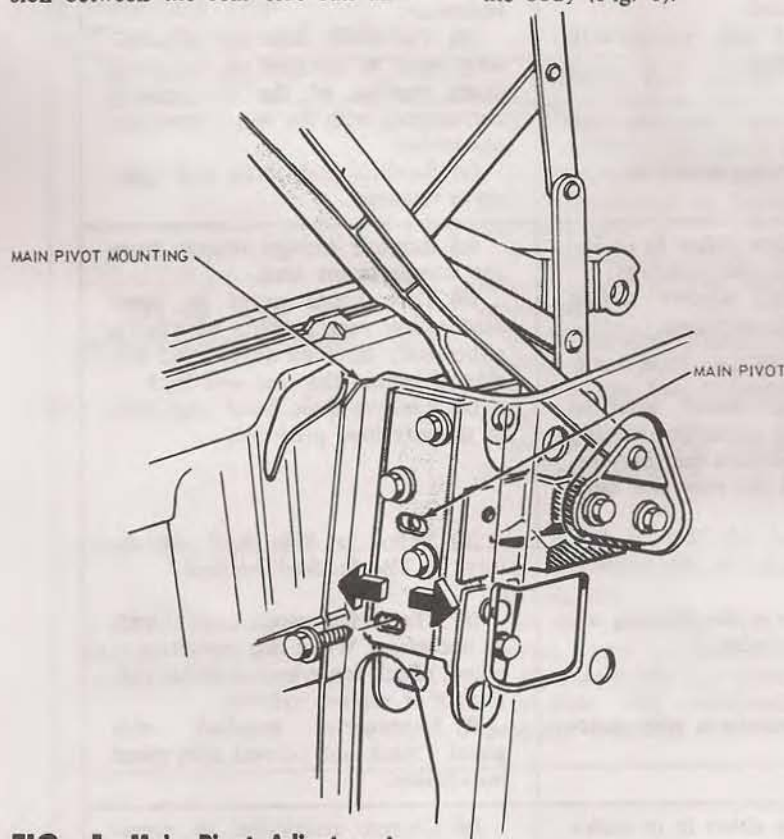

FIG. 1—Main Pivot Adjustment
belt moulding (Figs. 1 and 2).
2. Loosen the main pivot mounting attaching bolts on one side of the body (Fig. 1).